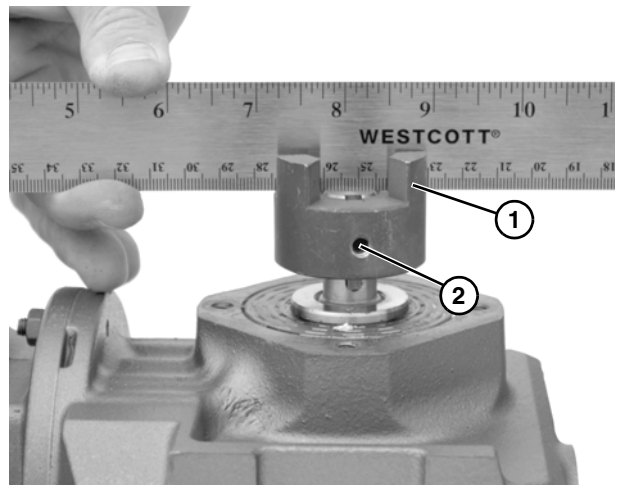

Figure 18
- Install 3 jaw coupling (**Figure 18, item 1**) so that the shaft is even with the coupling, and tighten set screw (**Figure 18, item 2**) to 45 in-lbs (5 N-m).